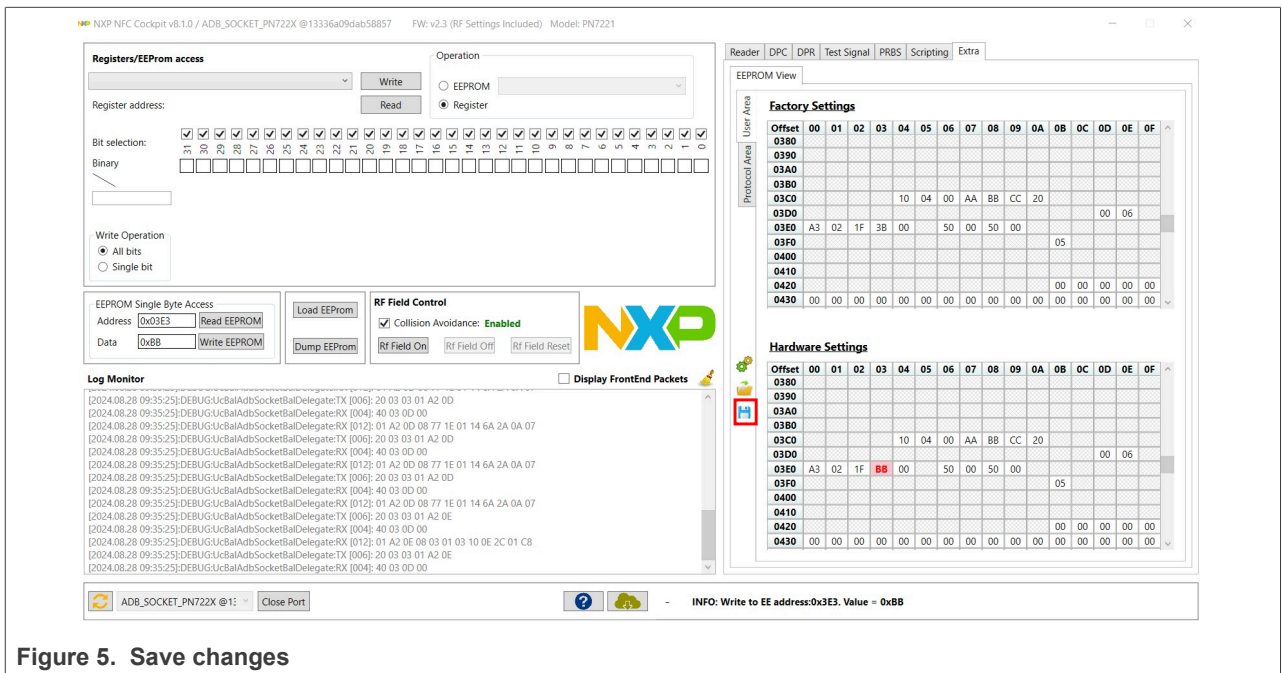

Figure 5. Save changes
- 4. Users can save the configuration with the "Save" button (see Figure 5) and name the configuration file as *libnfc-nxp-rfExt.conf*.